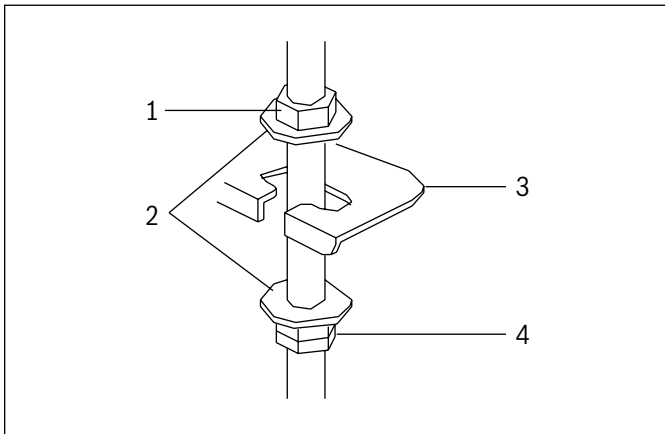

Figure 13
- Check if the unit is levelled at all four corners with a level measuring instrument or a water-filled vinyl tube as shown in figure 13.